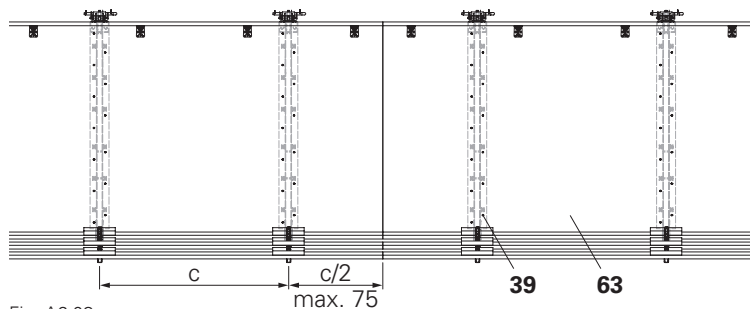

Fig. A6.03
- When mounting the platform on the floor, only a multi-layer plywood sheet can be used as deck (cantilever =  $c/2$ , max. 75 cm). (Fig. A6.03)